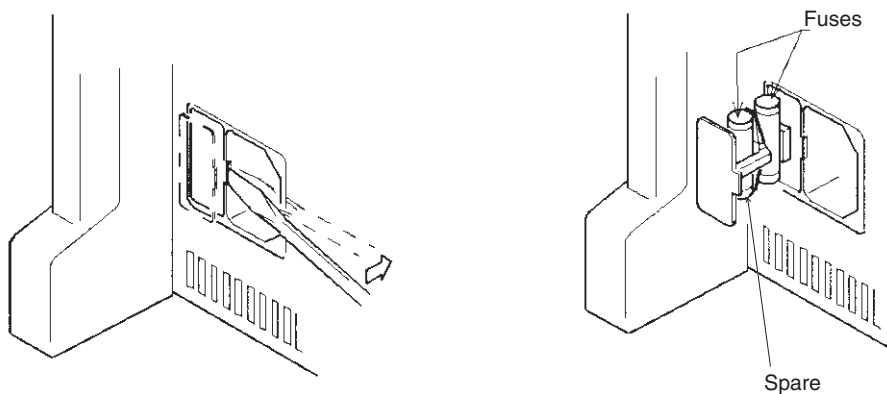

Fig.2-5 Removing the Fuse Holder
- 4 Insert the screwdriver as shown in Fig.2-5.